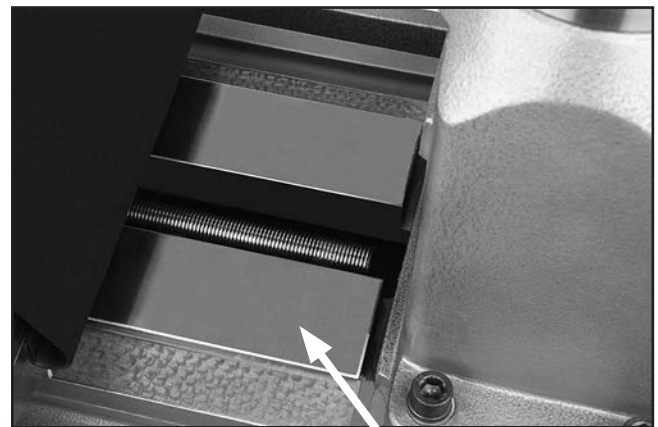

Figure 55. Cross travel leadscrew location.
3. Lift or remove the rubber way cover, then use mineral spirits and a brush to clean as much of the existing oil and debris as possible off of the cross travel leadscrew shown in **Figure 55**. Allow the leadscrew to dry.